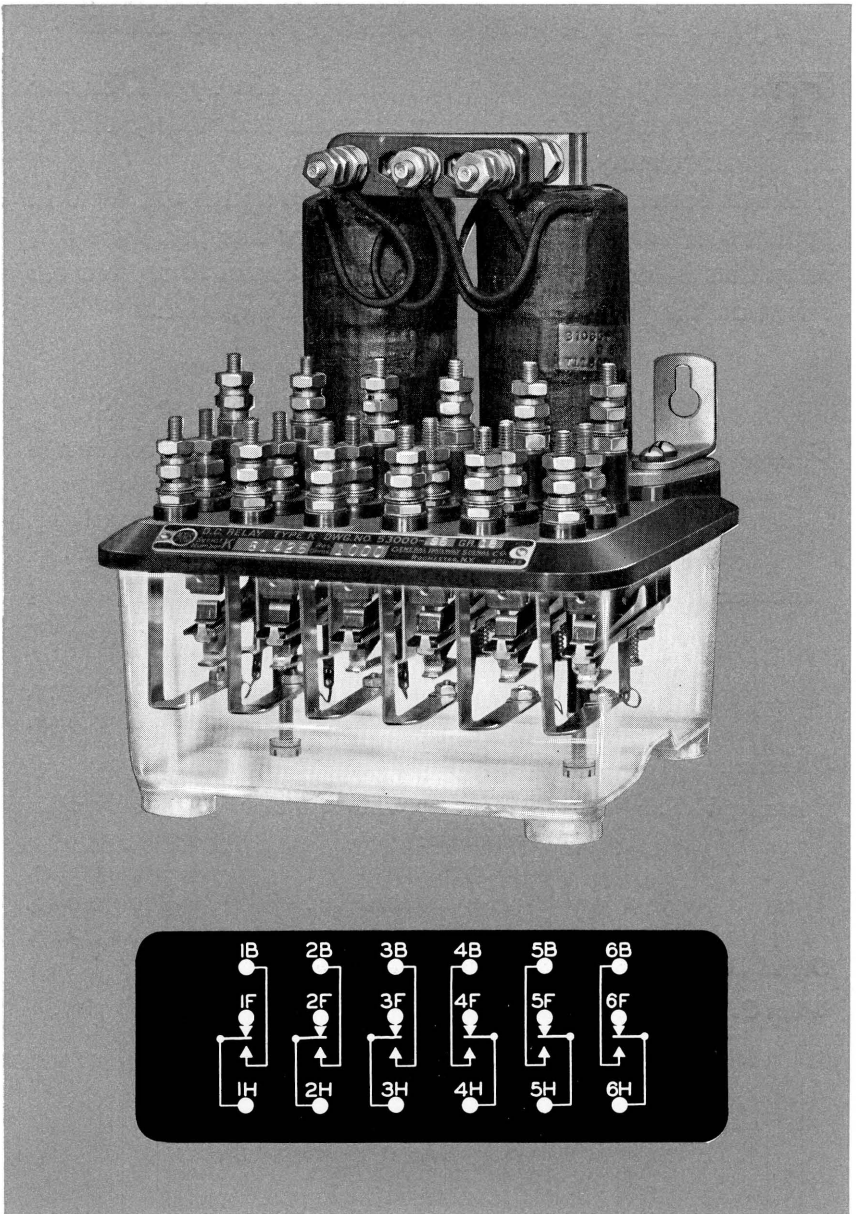

Figure 13. The Type K Neutral Relay, Size Six, and its Terminal Arrangement.
THIS relay, Figure 13, is exactly the same as the Size Four, except that it has a larger number of contacts. This necessitates slightly higher operating values; however, the increase is so slight that the installation of this relay is warranted in practically every case where this number of contacts is required.
- Contacts:** Six front and back dependent contacts as shown in Figure 13.